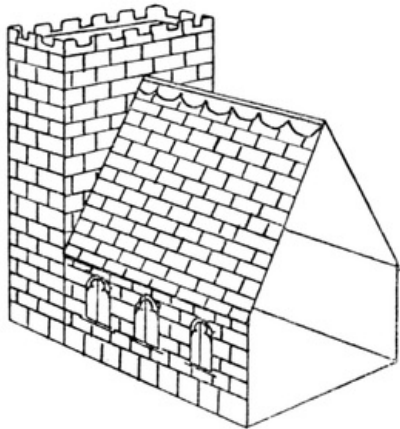

FIG. 100
**A Church** (Fig. 100). This is made from a combination of the barn or house and the castle. A strip of paper can be gummed along both sides to keep the two parts together.